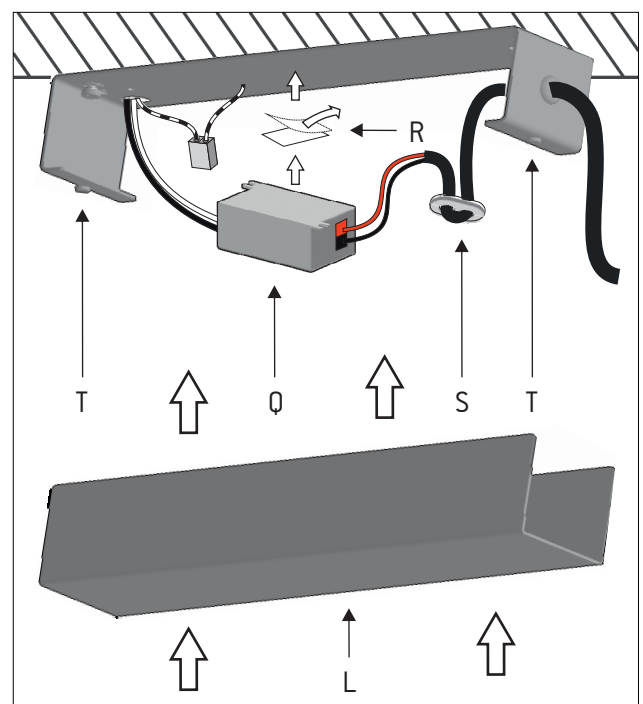

Figure 9
9 - Connect the driver (Q) to the electrical cable from the ceiling and fix it to the mounting bracket with double faced tape (R). Pass the electrical cable of the lamp through the lateral hole of the mounting bracket. Adjust the cable to the desired length and fix it using the cable ties (S). Cut the excess cable and make the electrical connections. Place back the canopy (L) and make sure that it is fixed with the mounting bracket through the magnets (T). Figure 9